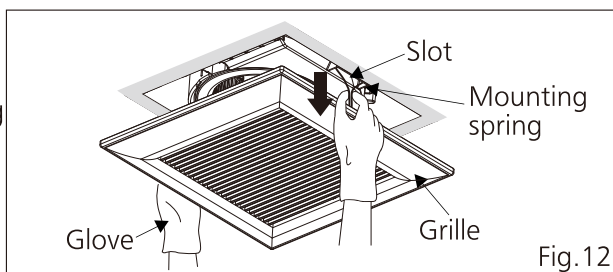

Fig.12
1. For model FV-0810VSS1 please remove grille. (Squeeze mounting spring and pull down carefully) (Fig.12)